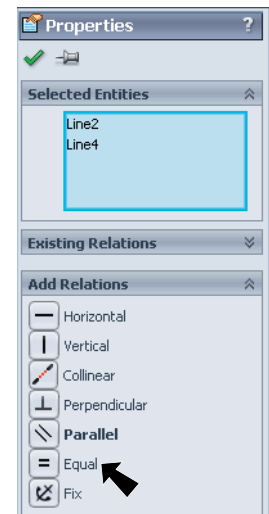

Fig. 24
Step 3. In the Property Manager under Add Relations, click **Equal** , **Fig. 24**. Click OK .